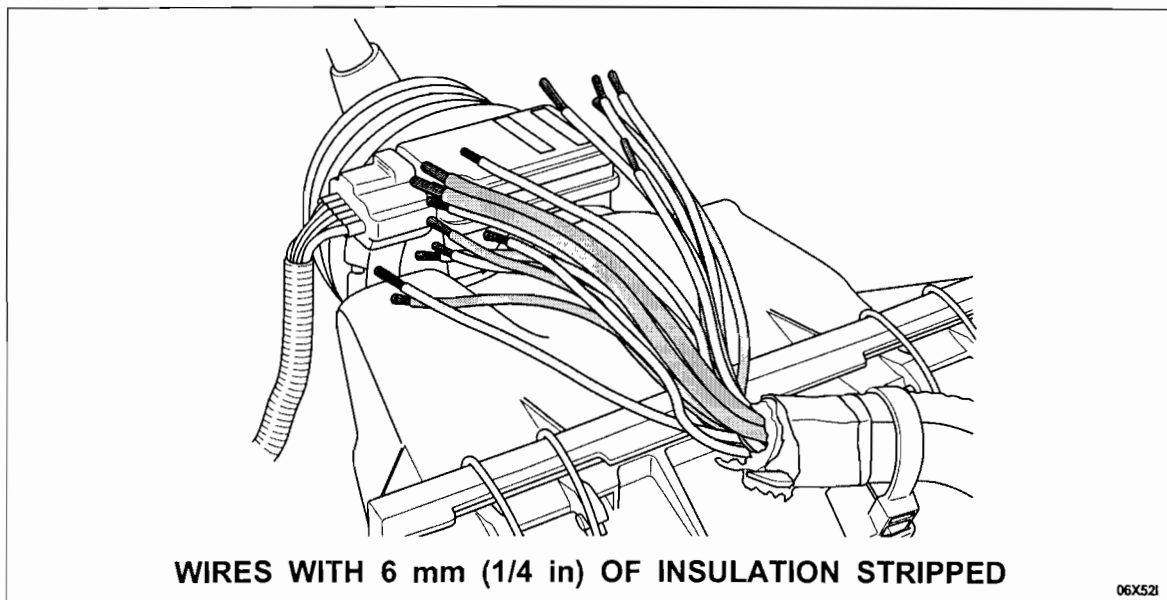

FIGURE 9
3. Strip approximately 6 mm (1/4 in) of insulation from each of the cut wires in the harness. See Figure 9.